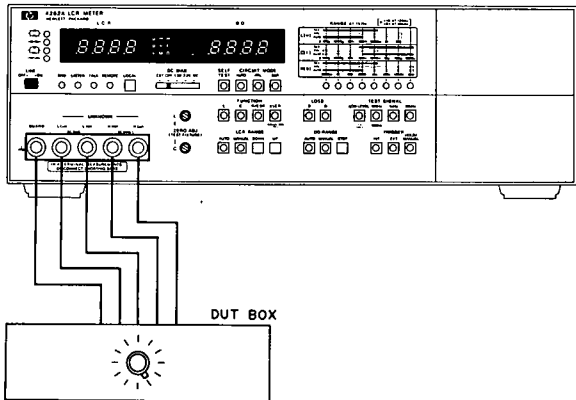

Figure 5-13. Offset Adjustment Setup.
- 1. Connect Test Leads (HP P/N: 16361-61605) between 4262A UNKNOWN terminals and 16362A DUT Box as shown in Figure 5-13. If 16362A is not available, attach 16061A Test Fixture to UNKNOWN terminals.